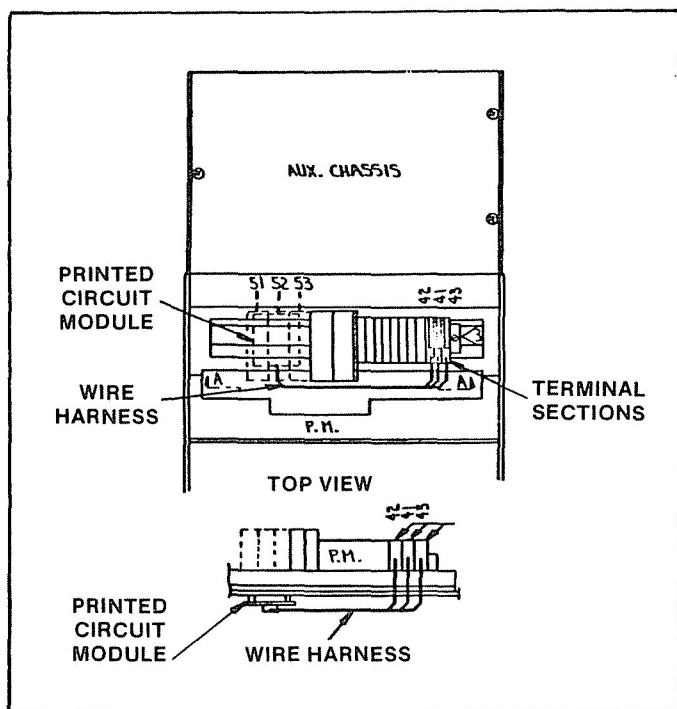

Figure 2 — Mounting Location of Auxiliary Contact Kit 3-10 hp @ 230VAC
(NOTE: Terminal Board on PC to face into power module). (Refer to Figures 2, 5 & 6) skip to step 5.
5. Mount terminal sections to right end of terminal board. (Refer to Figures 2, 3, 4 & 6).